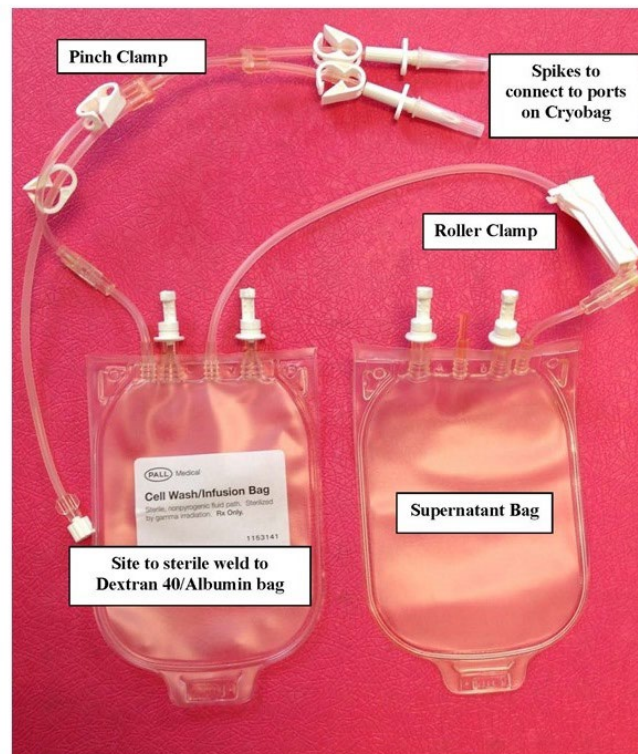
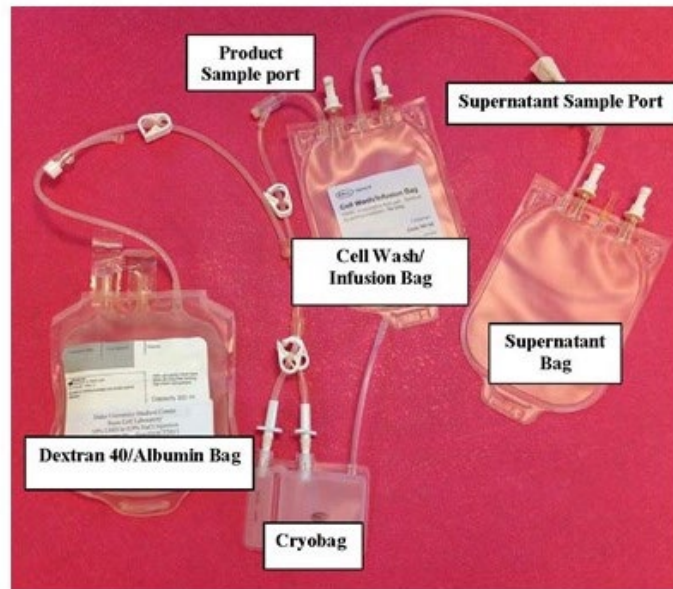

Figure 1 –Cell Wash/Infusion Bag Set
Figure 2 – Bag Configuration
- a. Clamp all tubing and place assigned labels on the cell wash/infusion bag set (cell/wash infusion bag attached to supernatant bag) (see Figure 1).
- b. Sterile weld the cell wash/infusion set to the Dextran 40/Albumin bag (see configuration in Figure 2).
- f. Insert the spikes (see Figure 6d) on the infusion bag (see Figure 1) in the dry and disinfected ports on the cryobag one at the time (see Figure 2).